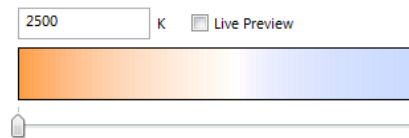

Figure 208: Selecting a colour temperature.
- **Colour Temperature** (see Figure 208): This colour type is also referred to as tunable white. Here a slider allows to select the colour temperature between a “warmer” white (red) and “cooler” white (blue). Alternatively, the desired colour temperature can be entered as number in Kelvin. Note, that a lower Kelvin value is considered a “warmer” white and vice versa.